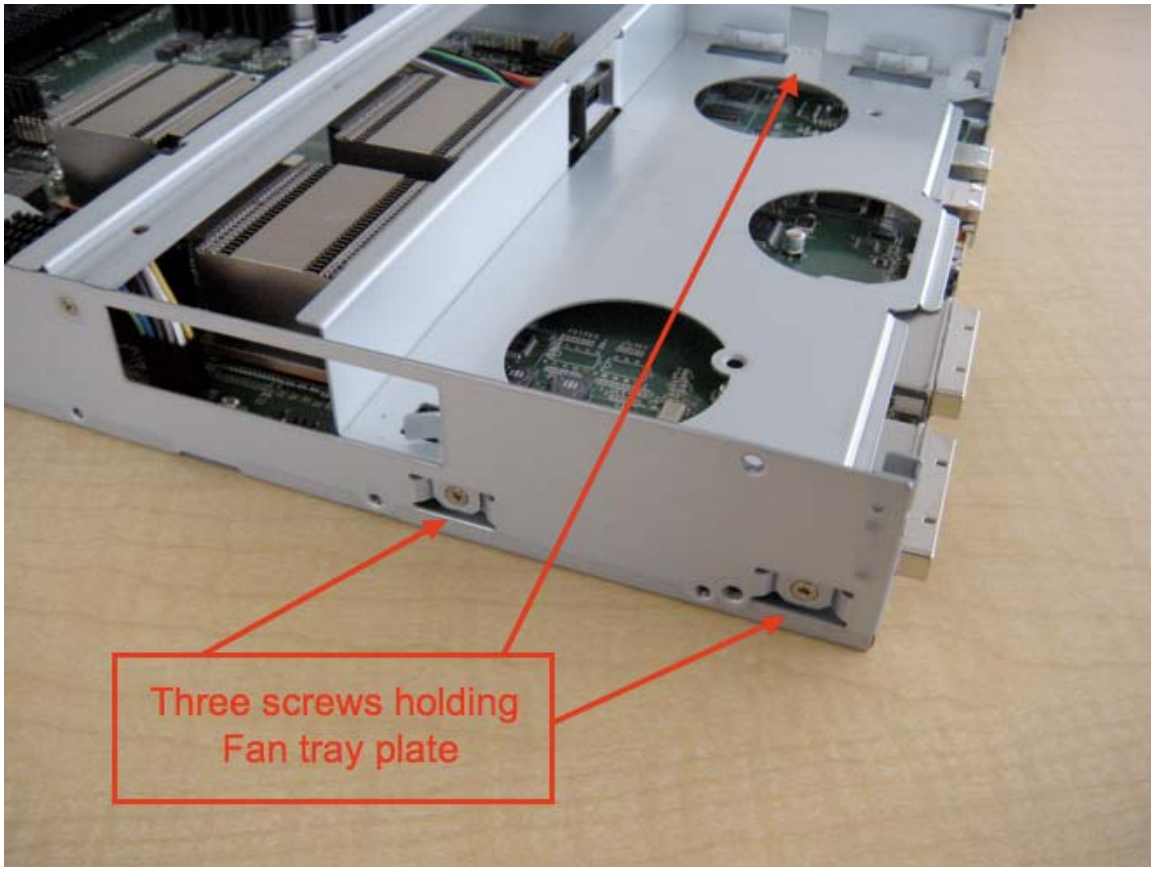

Figure 3-6: Fan tray plate screws
7. Remove three screws that hold the fan tray plate in place (figure 3-6)